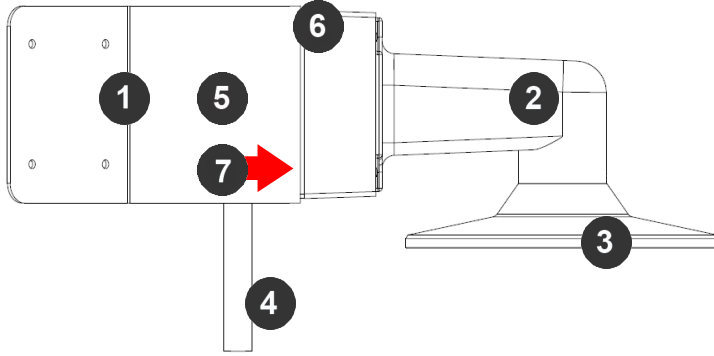

Figure 2: Attach corner mount adapter to exterior corner wall
6. Attach the Wall Mount Adapter (SV-WMJB) to the Corner Mount Adapter (AV-CRMA) as shown in Figure 2.